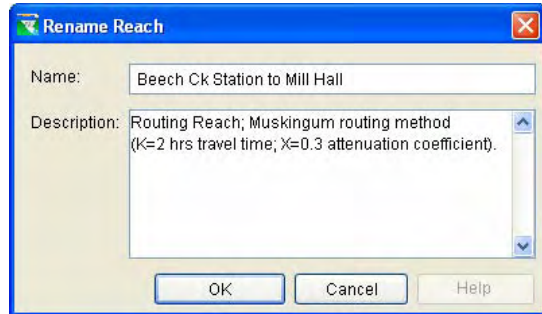

Figure 8.13 Rename Reach
3. Select **Rename** from the shortcut menu. The **Rename Reach** dialog box will appear (Figure 8.13), allowing you to type in a new name.